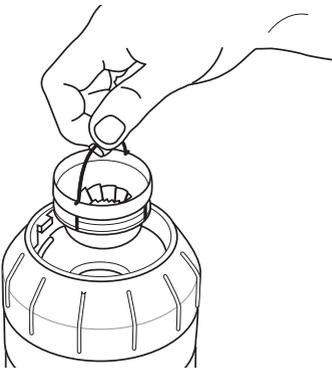

Figure 23
4. While holding down the 'UNLOCK' button lift out the top burr from the grind adjustment collar using the handle, see figure 23. Clean using the burr-cleaning brush.